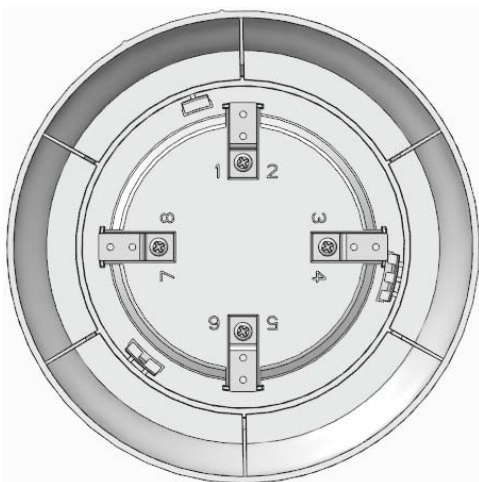

Fig.2 Bottom structure of the Sounder Base
2. The bottom structure of the Addressable Sounder Base as shown in Figure 2. Install the Addressable Sounder Base on the TX7980-type base with the installation terminals of the two devices are one-to-one. The device number or other device parameters can be verified with a handheld programmer if desired.